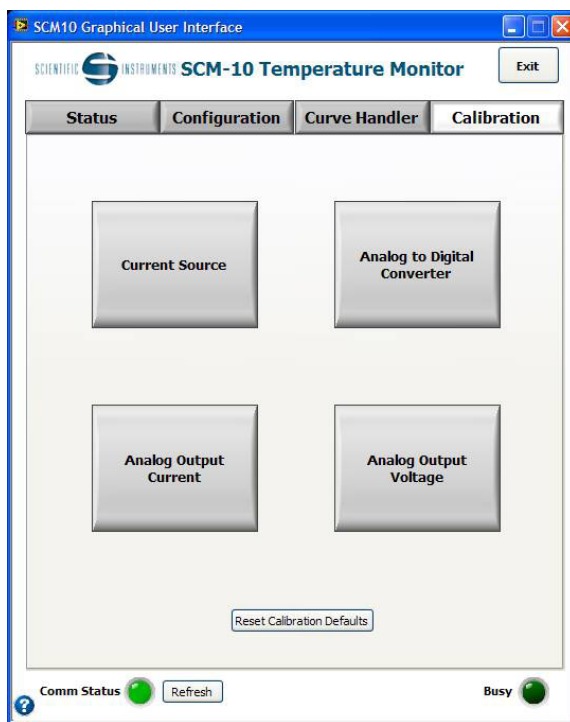

Figure 6.1
4. Click the "Calibration" tab on the GUI. This opens up a window like shown in Figure 6.1.